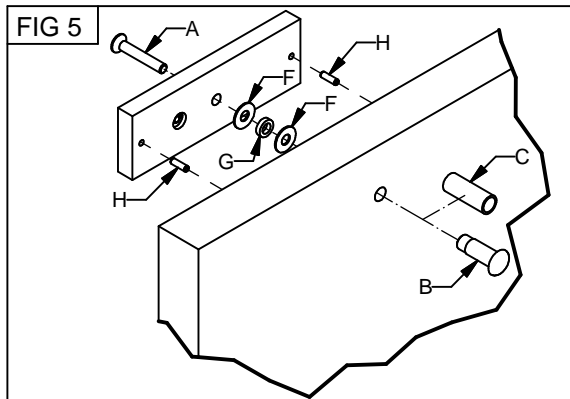

FIG 5
5. Push the Dome nut (B) into the 12mm hole in the door (for a hollow door push the the Aluminium spacer (C) into the 16mm hole then cut down flush with door face. Push Dome nut (B) into Spacer (C).
6. Gently tap the 2 guide pins (H) into the holes on the back of the Armature plate. Push the M8 50mm Allen bolt (A) through the countersunk hole in the Armature plate. Slide a Steel washer (F) over the M8 Allen bolt at the back of the Armature plate followed by a Rubber washer (G) and a Steel washer (F). (see Fig.5).
7. Fix the Armature plate to the door using the Allen key (L) and tighten until the Armature plate sits 3-5mm away from the face of the door. **Do not apply thread lock at this stage.**
2. Fit the 2 Armature plates to each door as per steps 5-7 (Fig.5) on page 2.
2. Fit the 2 Armature plates to each door as per steps 5-7 (Fig.5) on page 4.